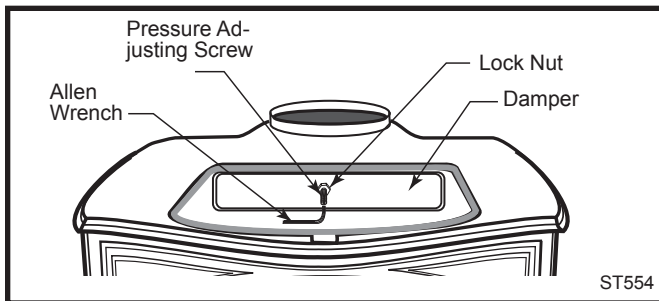

Fig. 5 Damper adjustment.
1. To adjust the damper seal, loosen the locking hex nut on the adjusting allen screw. (Fig. 5) Turn the screw clockwise with a hex wrench, in half-turn increments, until the damper grips the paper slips securely when you test the damper's operation. When you have achieved a snug seal, fasten the locking nut against the face of the damper. The seal should not be tight since the metal parts will expand slightly under heat.